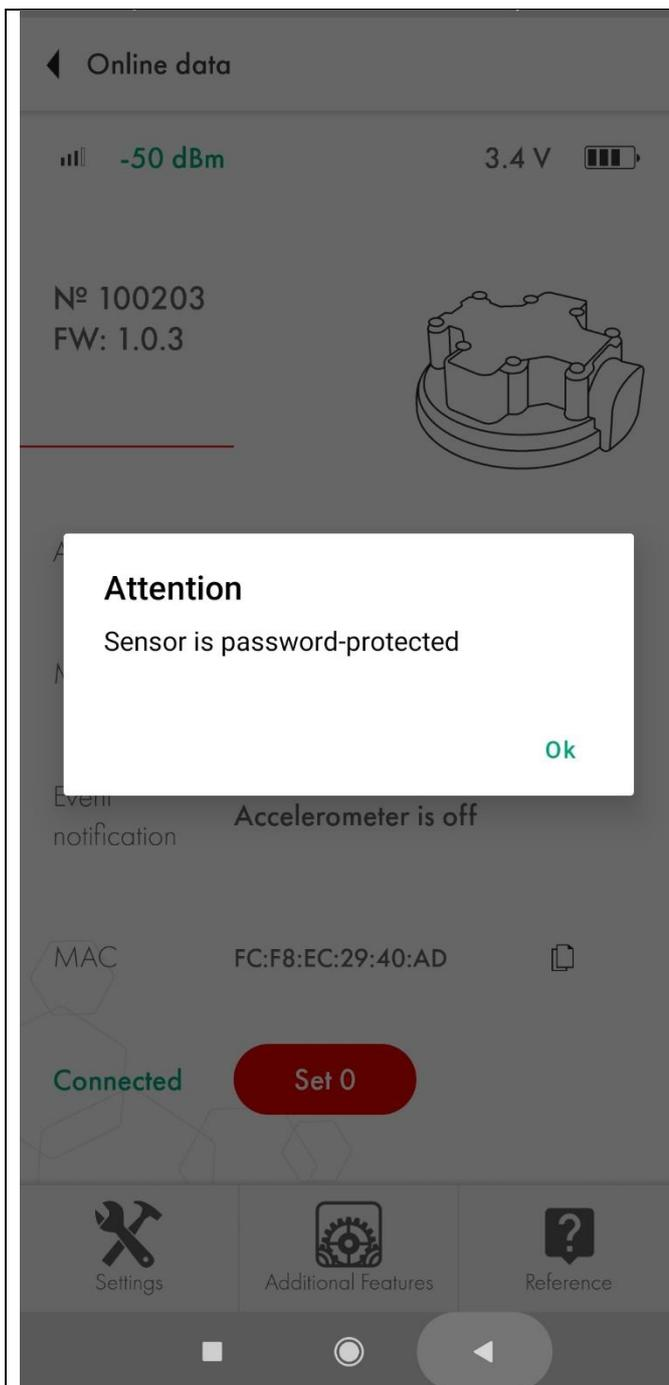
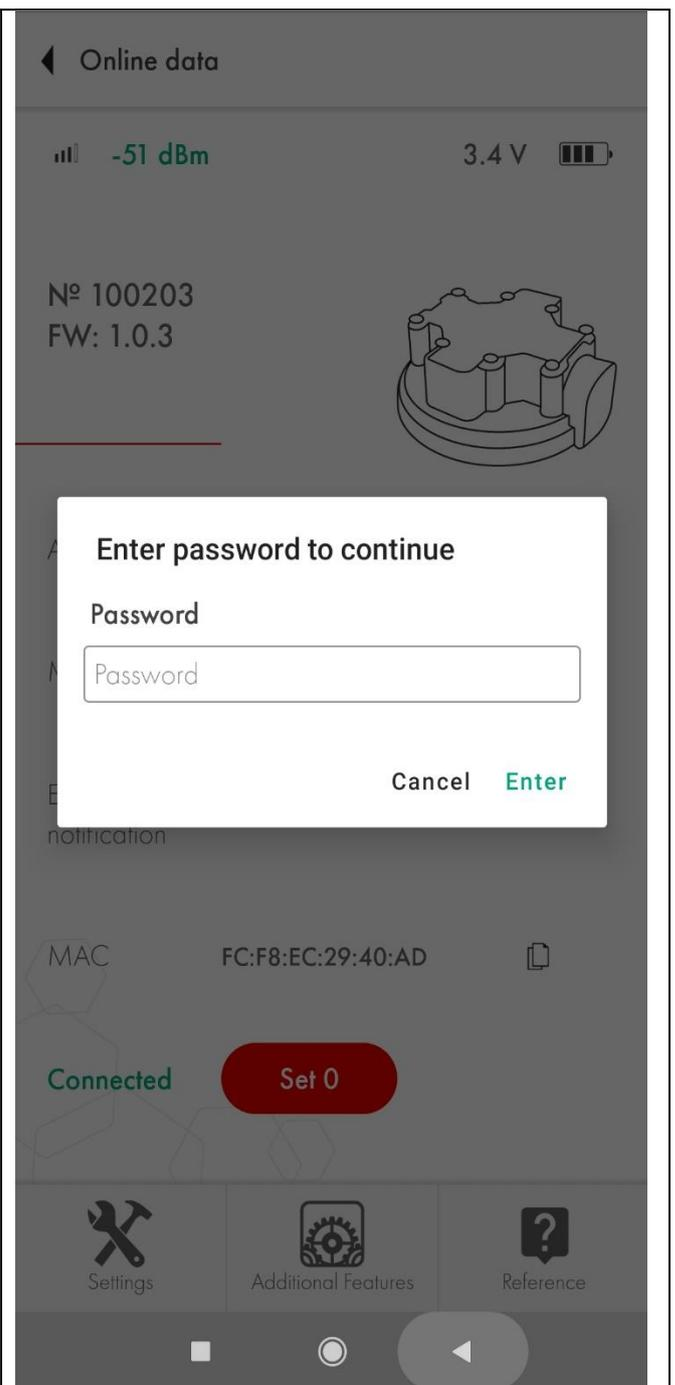

Fig. 9.7. Sensor is password-protected
Fig. 9.8. Enter the password
7. From now on, whenever you connect the sensor, you will see the message reading '*Attention Sensor is password-protected*' (Fig. 9.7.) And whenever you try to change anything in its configuration, you will be asked to enter the password (Fig. 9.8.)